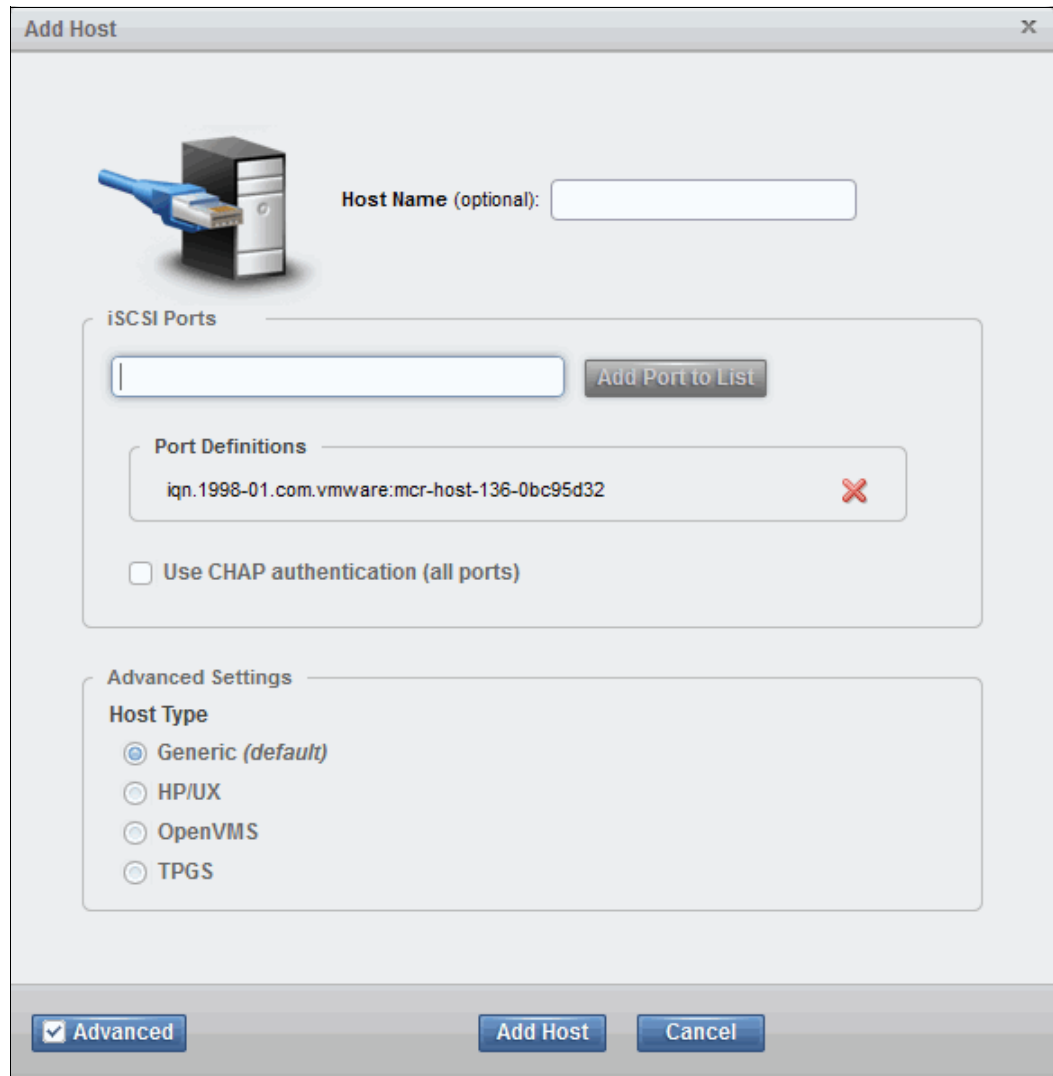

Figure 4-44 Adding the iSCSI initiator Host Name
3. This displays under **Port Definitions**, as shown in Figure 4-44. Repeat this step if several initiator names are required.